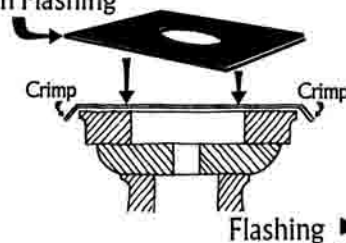

Figure 7-6
3. Flash the capital and crimp edges of flashing down. Caulk before positioning it under the soffit (Fig. 7-6).